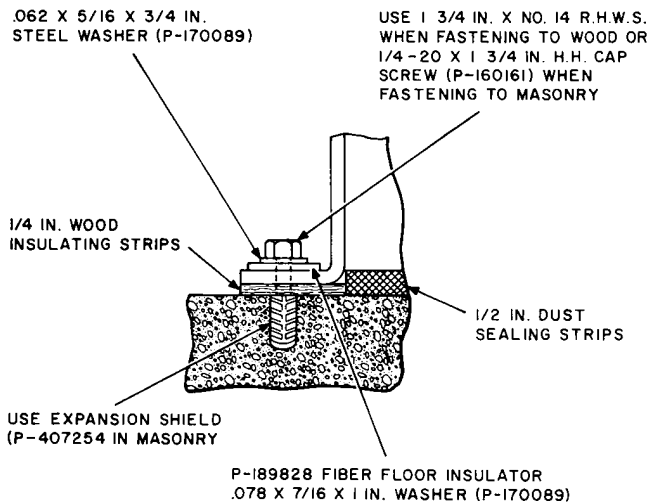

Fig. 1—Method of Fastening PBX
| POWER SUPPLY | 19 | 3.02 A PBX located on a metal surface such as the inserts used for terrazo floors should have the framework insulated by means of insulating strips as shown in Fig. 1 and 2. |
3.03 A PBX located on an insulating material, such as a floor covered with rubber tile, etc, does not require the insulating strips mentioned in 3.02 though metal may be concealed under the insulating material. The fiber floor insulator washer furnished with the PBX provide insulation for the framework in these cases. See Fig. 1.
3.05 Fasten the PBX as shown in Fig. 1. The PBX should stand approximately level.
- (e) ♦ Modification for grouping one position to another are made locally, in accordance with SD-66521-01, Fig. 1, 2, 3, 4, 5, 6, 9, and 10. The apparatus required to modify the telephone unit in position 2 is furnished in accordance with J59013D, List 2. J59013A, List 9 covers the common equipment for grouping the two positions. Apparatus for equipping cord units with long cords is furnished in J59013E, List 4 as shown in Fig. 12.♦